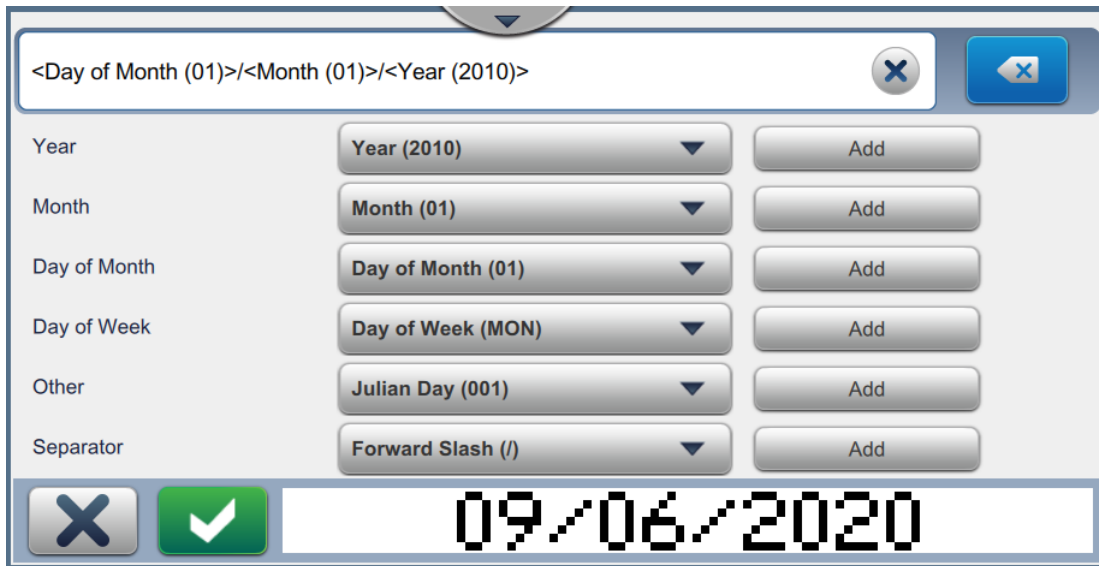
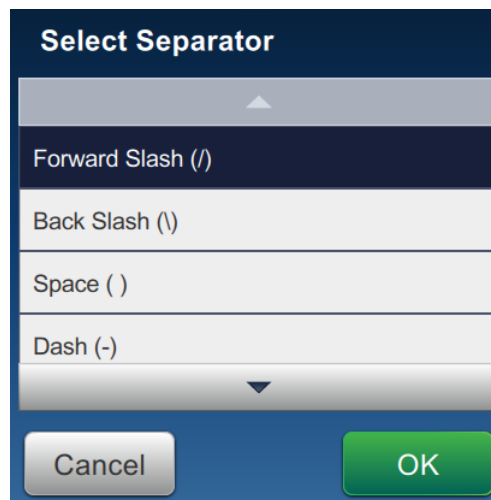

Figure 5-10: Date Set Up Screen
Figure 5-11: Date Separator Set Up Screen
2. Select the required format from the list of options (Year, Month, Date of Month, Day of Week, Other and Separator) as shown in Figure 5-10. Each of these options has a number of layouts which are selectable from drop down list, example as shown in Figure 5-11.
3. Once the required format is selected, touch the  button to move to the date format. The display will show the date format created as shown in Figure 5-10.